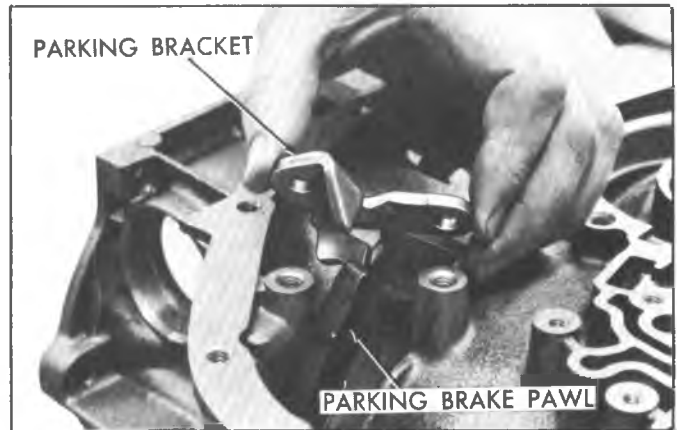

Fig. 19T--Removing Parking Bracket
5. Remove attaching screws and parking bracket (fig. 19T).